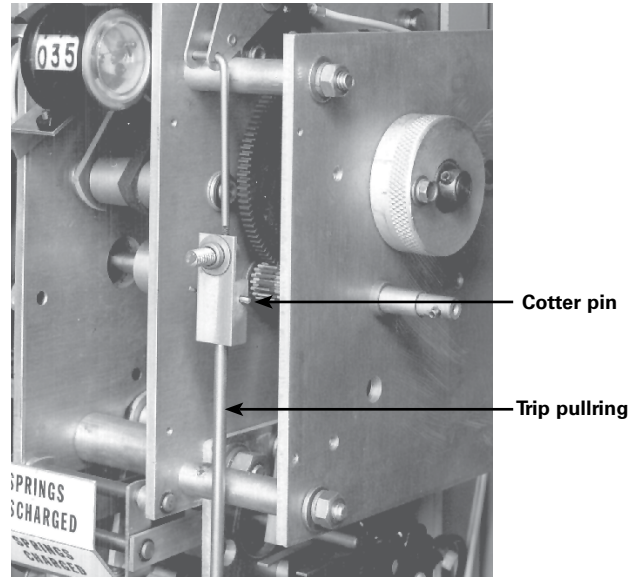

Figure 12. Removal of external trip pulling
8. Remove trip reset knob and front plate, remove cotter pin to disconnect external trip pulling from threaded pin on trip link, Figure 12.